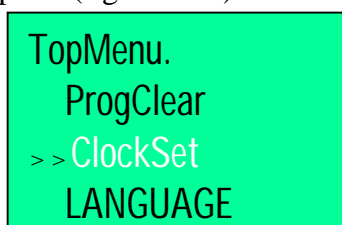

Fig. 2.24
- From the main menu (figure 2.23), scroll through the list using keys 5 (▲) and 6 (▼) until the prompt is opposite the **ClockSet** option (figure 2.24).